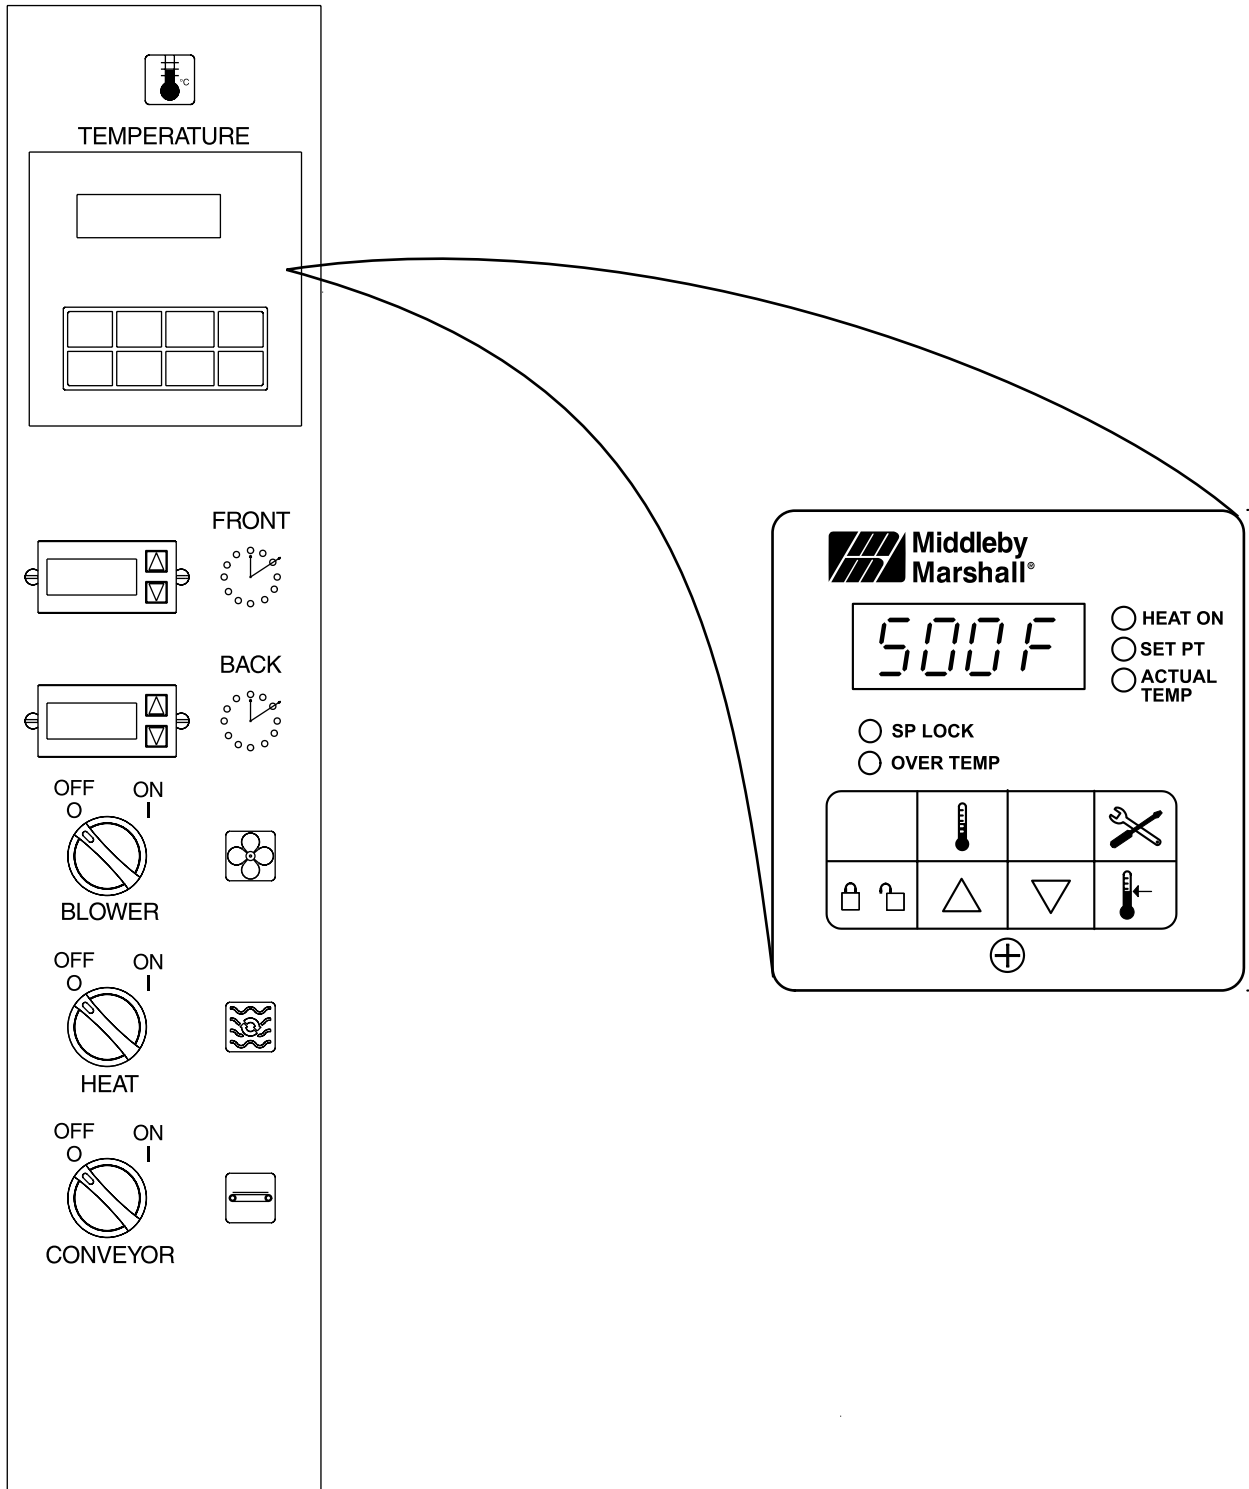

Figure 3-6. Control Panel
1. Turn the BLOWER switch (Figure 3-6) to the "ON" or "I" position. This starts the main blower fan and the cooling fans. The blower circulates air through the air fingers and must stay on during the cooking or baking process.
2. Check to see if the cooling fans (see Figure 1-8) are operating when the blower switch (see Figure 3-6) is turned "ON" or "I". The cooling fans cool the control components and blower motor. The cooling fans, located at the rear of the electrical control cabinet blows air into and through the cabinet. Air is exhausted through the front of the cabinet and also out the front of the oven. Refer to Daily Maintenance Section for fan intake checking procedure.
3. Turn the CONVEYOR switch (Figure 3-6) to the "ON" or "I" position. This starts the conveyor belt moving through the oven. Set the conveyor speed for the desired baking time. Refer to the following Procedures E, F and G.
5. Turn the HEAT switch (Figure 3-6) to the "ON" or "I" position. This completes a circuit to supply electric power to the electric heating system.